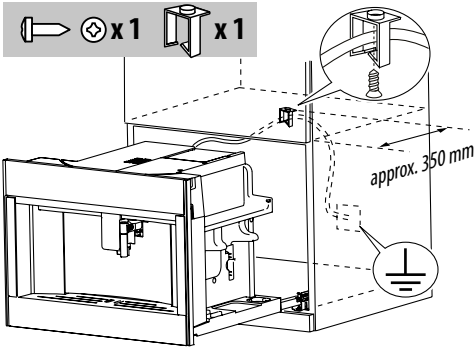

FIG. 4 Product Installation
- Position the appliance on the rails, making sure the pins are correctly inserted in the housings, then fix it with the screws supplied (fig. 4). If the height of the appliance requires adjusting, use the spacer disks provided.